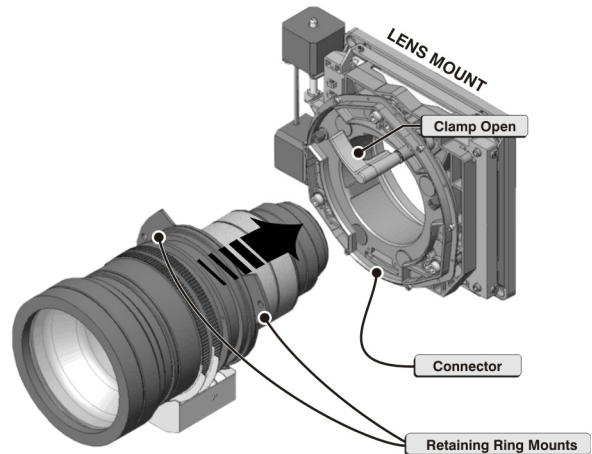

Figure 2-6 Insert Lens
1. Turn the lens clamp to the OPEN position (**Figure 2-6**).
3. Orient the lens so the lens retaining ring mounts line up with the lens mount. Fully insert the assembly straight into the lens mount opening without turning (**Figure 2-6**). Magnets, mounted inside the lens mount, help to properly guide the lens. When you hear a tapping sound it indicates the lens has made contact with the magnets. These magnetic guides ensure the lens is properly seated inside the mount, that the aperture is orientated correctly and that the connector for motorized zoom and focus is properly connected.